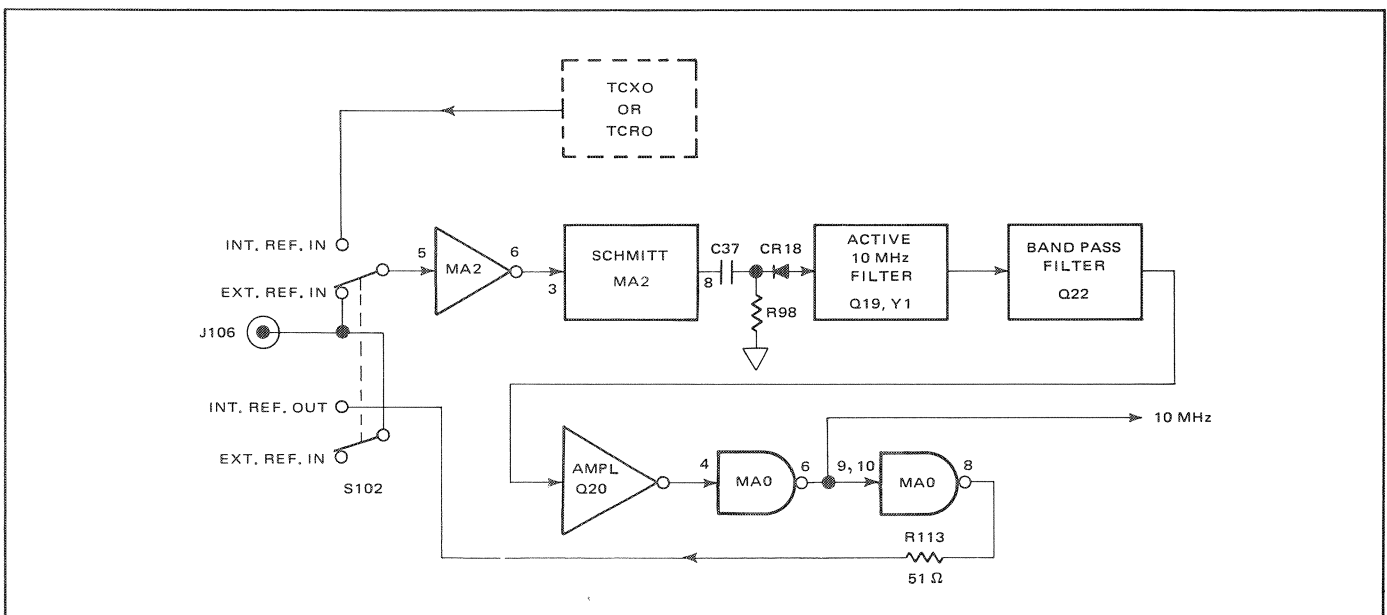

Figure 4.15 - Reference Conditioning Circuit
4.62 The circuit is shown in simplified form in figure 4.15. The signal from the REF switch is shaped by the limiting action of inverter MA2 and applied to the Schmitt trigger circuit consisting of two inverters (MA2). The output is a square wave. The trigger output is differentiated through a capacitor-resistor combination (C37, R98) and the negative spikes from the differentiated signal are applied to the crystal filter circuitry (Q19, Y1). This circuit produces a 10 MHz damped oscillation that is sustained by input spikes at 10 MHz or by subharmonics at 1 and 5 MHz. The